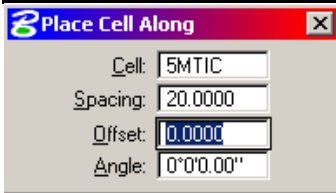

Figure 4-8: Place Cell Along Dialog
When the dialog opens, enter the desired spacing for the tick marks. Defaults are 100' or (10 meters). (Figure 4-8)
- 🎵 The normal text for stationing is 100 feet (20 meters), but if you have a really long job, maybe you might want to space them at 1000 feet (100 meters) or another even increment. Be sure that the *Offset* and *Angle* are both set to “0”. (Figure 4-8)